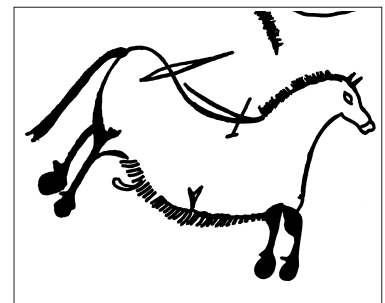

Fig. 8.2
**BITONAL SCANS (1-BIT)** In bitonal scans, each pixel can be only one of two values: 100% black or 100% white. Images that lack gray values, such as figure 8.2, are good candidates for bitonal scanning.